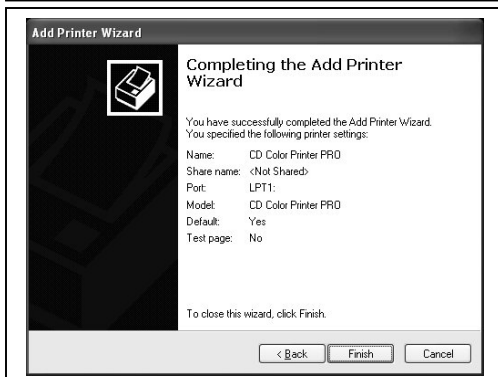
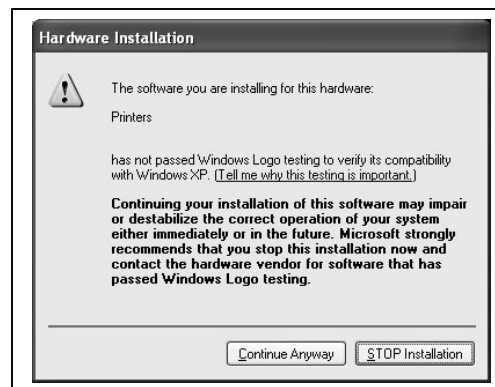

fig 11
fig 12
11. The “Completing the Add Printer Wizard” window will appear (fig 11). Click Finish. After clicking finish, the Spectrum 2 printer driver will be installed. You will be asked to accept that the printer driver is not digitally signed by Microsoft, click Continue (fig 12). You have now successfully installed the printer.